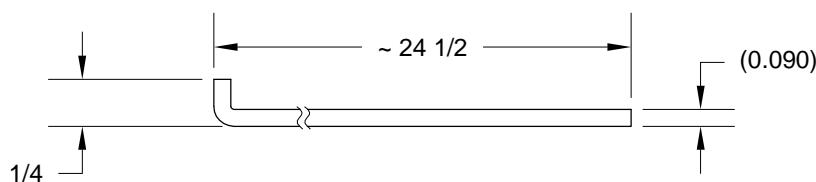

FIGURE 1: FABRICATING THE COWL TOP HINGE PINS
Step 1: Make two F-1001S Cowl top Hinge Pins from SSP-090 hinge pin per the dimensions in Figure 1. These pins will replace the soft aluminum pins provided for the F-1001N Cowl Attach Hinge.